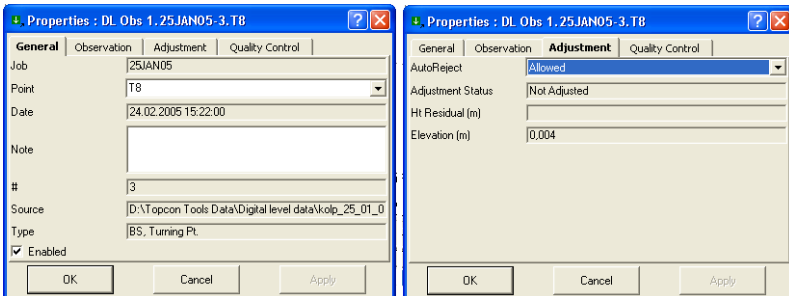

Figure 5-112. General and Adjustment Properties
2. Edit the *Point* and *Note* in the *General* tab and *AutoReject* in the *Adjustment* tab as needed (Figure 5-112).
2. View or edit *General* tab fields (Figure 5-112 on page 5-78). Edit the *Point To*, *Distance*, *Notes*, and *#* parameters as needed.